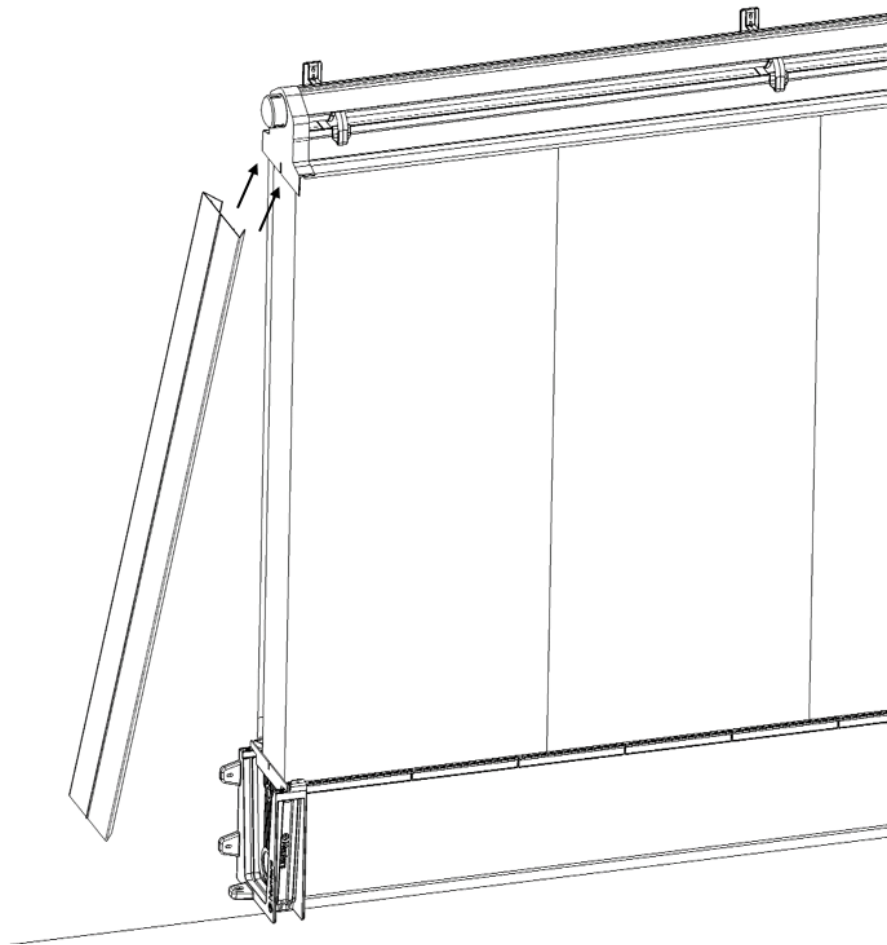

Figure 36
Place the Lateral Profile [ref. 19]. Firstly, insert it in the top End Cover for Deflector and after let it slide in the Bottom Gutter End Cover. See Figure 36.